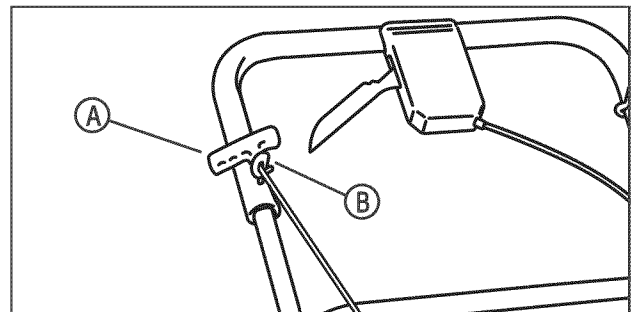

Figure 3: Attaching the recoil-start grip
5. Hold the engine stop lever against the handle. (Refer to section entitled 'Engine Stop Lever'.) Slowly pull the recoil-start grip (**A, Figure 3**). To attach the recoil-start grip to the rope guide (**B**), twist the rope through the rope guide mounted on the right side of the handle.